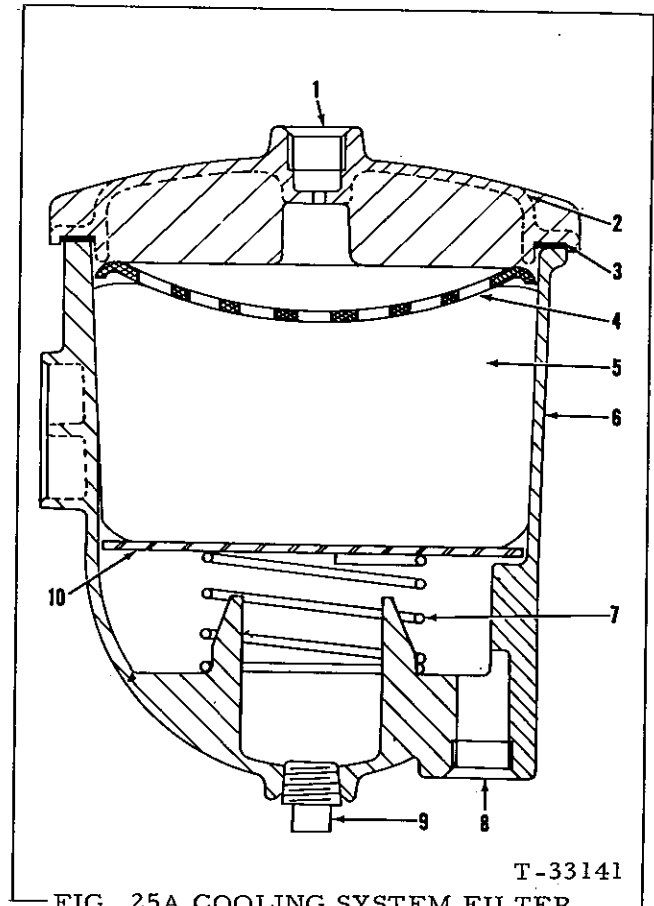

FIG. 25A COOLING SYSTEM FILTER - SPECIAL EQUIPMENT
The filter (if so equipped), Fig. 25A, is connected to engine cooling system with by-pass hose connections. Coolant from outlet side of water pump passes through filter and is returned to suction side of water pump. Purpose of the filter is to extend engine life by establishing and maintaining a cooling system free of rust, scale, or corrosion. The filter element should be changed after every 500 hours of operation.
3. Remove drain plug, Fig. 25A, from bottom of filter body and allow coolant to drain. Install drain plug; remove capscrews attaching filter cover to filter body and remove cover.
4. Lift upper plate and filter element, Fig. 25A, out of filter body. Discard old filter element. Remove corrosion resistor plate (lower) and spring from filter body.
Install spring and corrosion plate in filter body; refer to Fig. 25A and install new filter element and upper plate in filter body.
NOTE: Corrosion resistor plate, Fig. 25A, should be replaced each time filter element is replaced. If replacement is not possible, buff plate to a bright finish with wire brush or wheel. When plate becomes thin and pliable, or develops large jagged holes, it **MUST** be replaced.